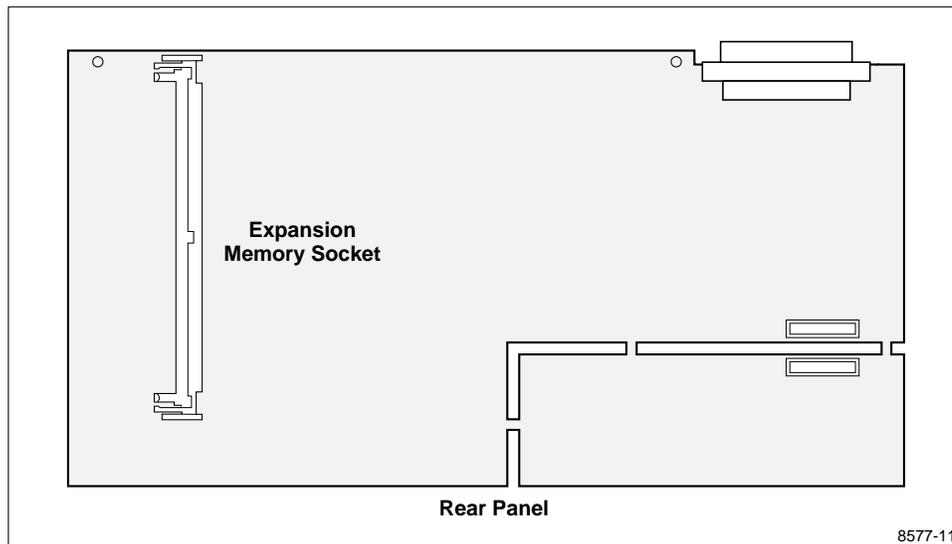
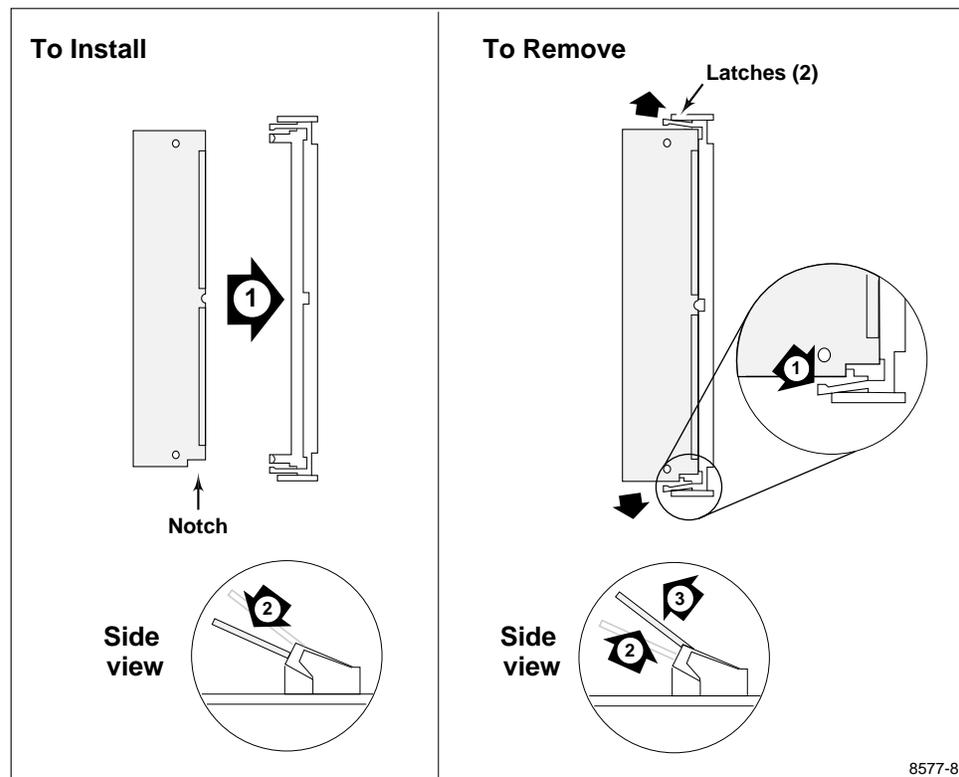

Figure 12. Memory Socket Location
Figure 13. Installing or Removing the Memory Board
3. Locate the expansion memory socket (see Figure 12) and install the new memory board as shown in Figure 13 (if a memory board is currently installed in the socket, remove it first).